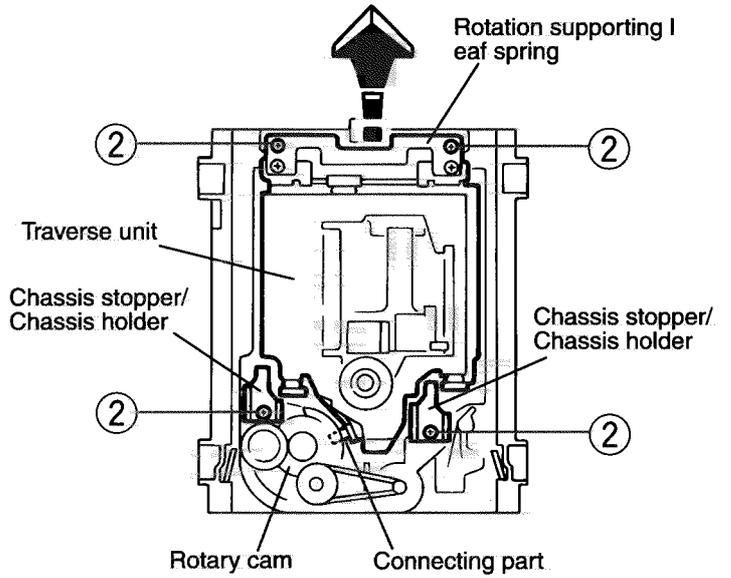

Fig. 6
■ **Removing the Traverse Unit (See Fig.6)**
2. Loosen the four screws ② attaching the traverse unit, and remove them together with the chassis stoppers / chassis holders.